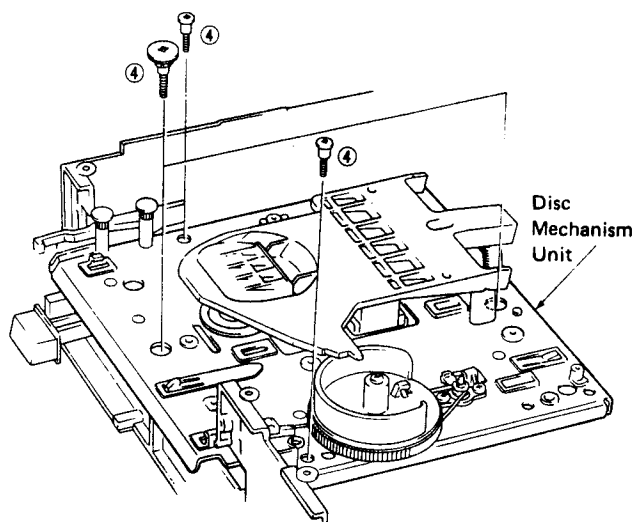

Fig. 4
- Remove 4 screws (④) in Fig. 4.